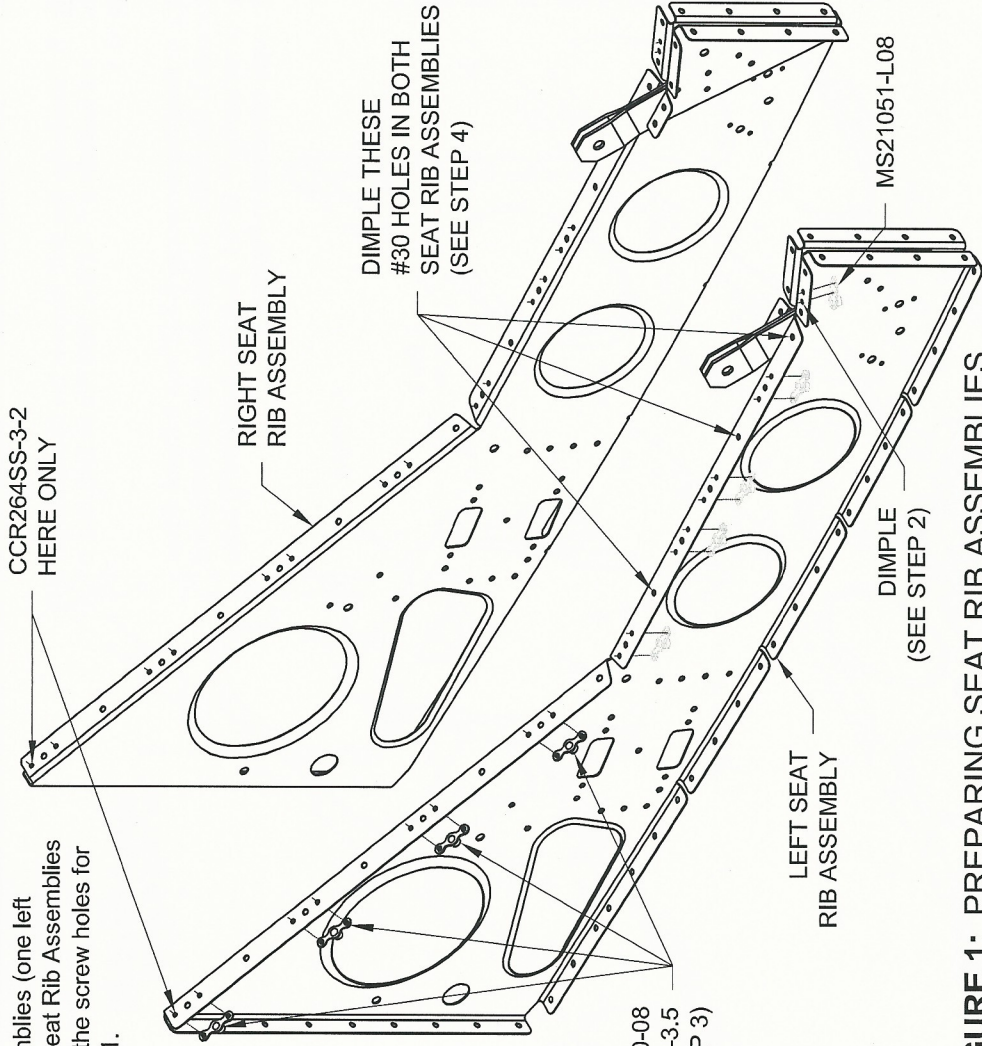
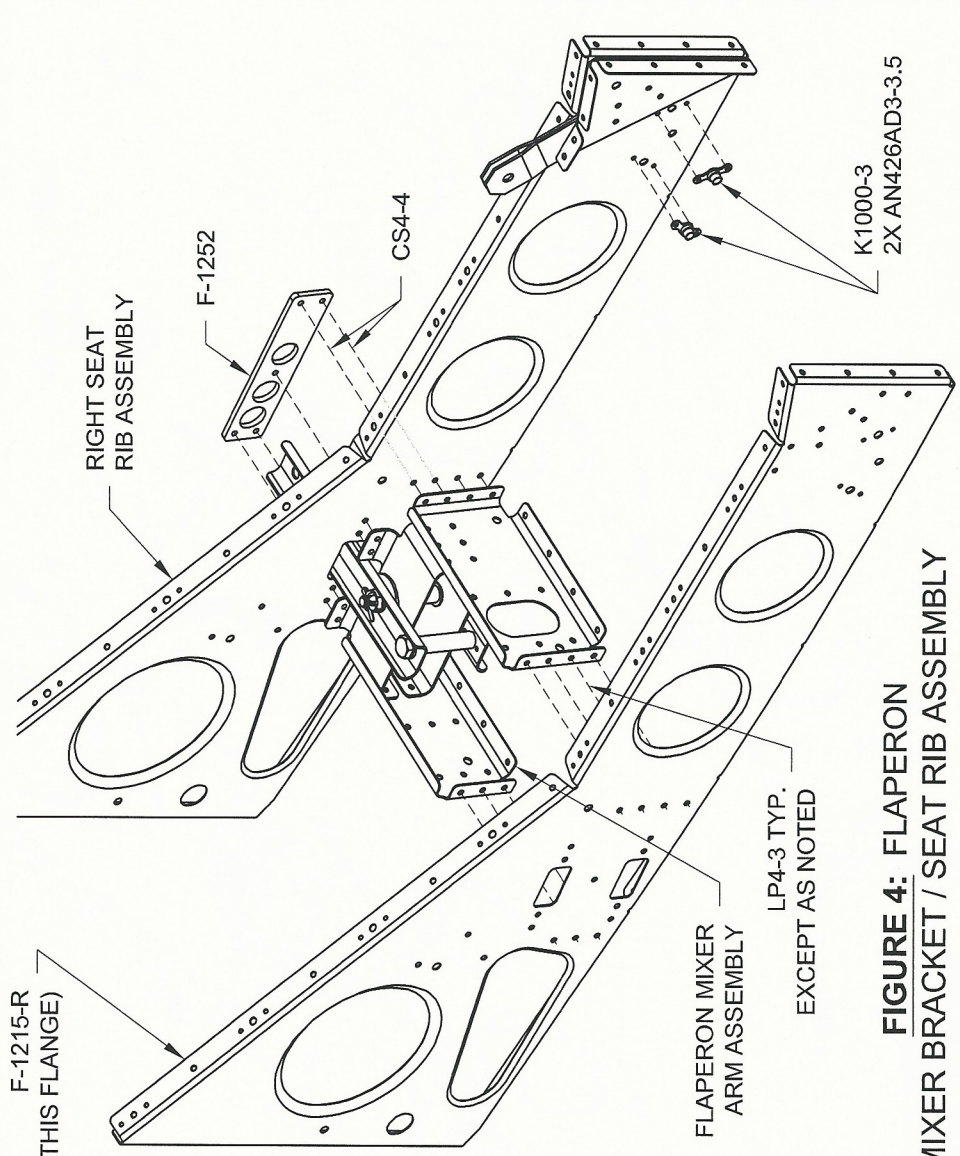

FIGURE 1: PREPARING SEAT RIB ASSEMBLIES
FIGURE 4: FLAPERON MIXER BRACKET / SEAT RIB ASSEMBLY
Step 1: Set aside two Seat Rib Assemblies (one left and one right). In the remaining two Seat Rib Assemblies (one left and one right), final-drill #19 the screw holes for the nine nutplates depicted in Figure 1.
Step 2: Dimple the indicated attach hole for the MS21051-L08 nutplate in the aft, sloped flange of the two Seat Rib Assemblies. (The second attach hole has been factory dimpled.) See Figure 1.
Step 3: Dimple the four K1000-08 nutplates called out in Figure 1, then rivet them to both Seat Rib Assemblies. The five remaining nutplates are installed on Pages 21-7 and 21-8.
Step 4: In both Seat Rib Assemblies, dimple (flush on top surface) the three #30 holes indicated in Figure 1.
Step 7: Dimple the nutplates shown in Figure 3 and the corresponding holes in the Left Seat Rib Assembly (the left seat rib assembly from Figure 1), then rivet the nutplates in place using the rivets called out.
Step 11: Dimple the nutplates shown in Figure 4 and the corresponding holes in the Right Seat Rib Assembly (the right seat rib assembly from Figure 1), then rivet the nutplates in place using the rivets called out.
Step 12: Rivet the remaining F-1252 Flaperon Stop and the Flaperon Mixer Arm Assembly to the Right Seat Rib Assembly using the rivets called out in Figure 4.
Step 13: Rivet the F-1215-R Seat Rib that has the nutplates installed from Step 5, to the Flaperon Mixer Arm Assembly as shown in Figure 4.